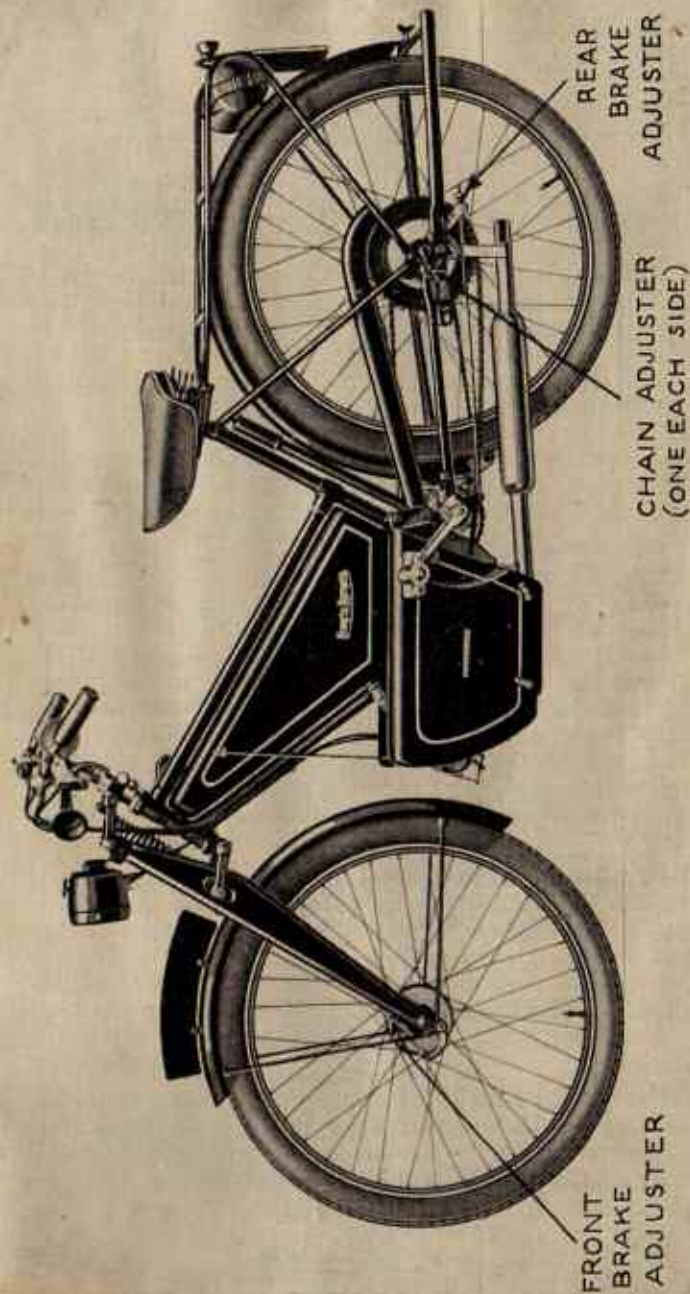

FIG. 17.
The adjusting nut is situated at the brake end of the cable (see Fig. 17). When re-lining becomes necessary, the wheel must be removed from the frame and the hub dismantled in order to take out the two shoes from each brake.
**Rectifying Chain-Stretch.**—The rear driving chain should be kept free from grit by an occasional wash in paraffin. Stretch in this chain is taken up by a screw adjuster at each side of the rear wheel spindle (see Fig. 17).